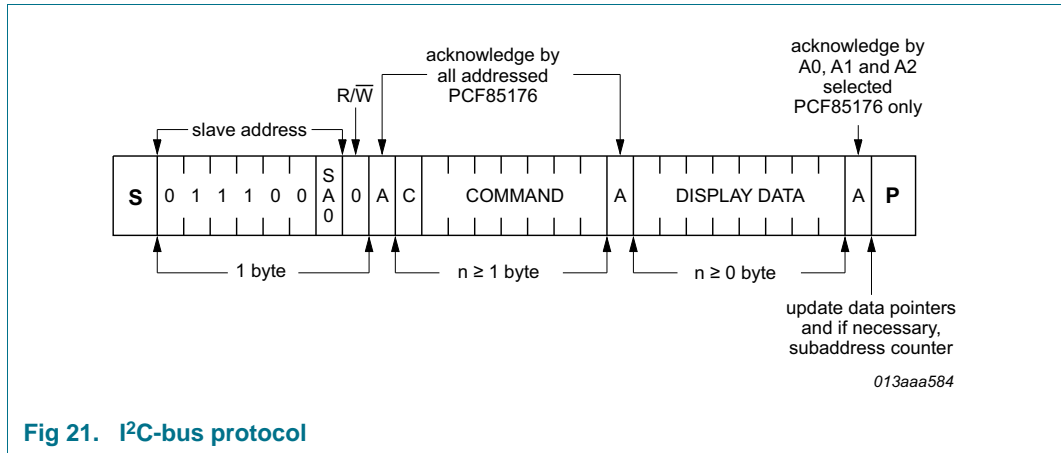

Fig 21. I2C-bus protocol
The I2C-bus protocol is shown in Figure 21. The sequence is initiated with a START condition (S) from the I2C-bus master which is followed by one of the two possible PCF85176 slave addresses available. All PCF85176 whose SA0 inputs correspond to bit 0 of the slave address respond by asserting an acknowledge in parallel. This I2C-bus transfer is ignored by all PCF85176 whose SA0 inputs are set to the alternative level.